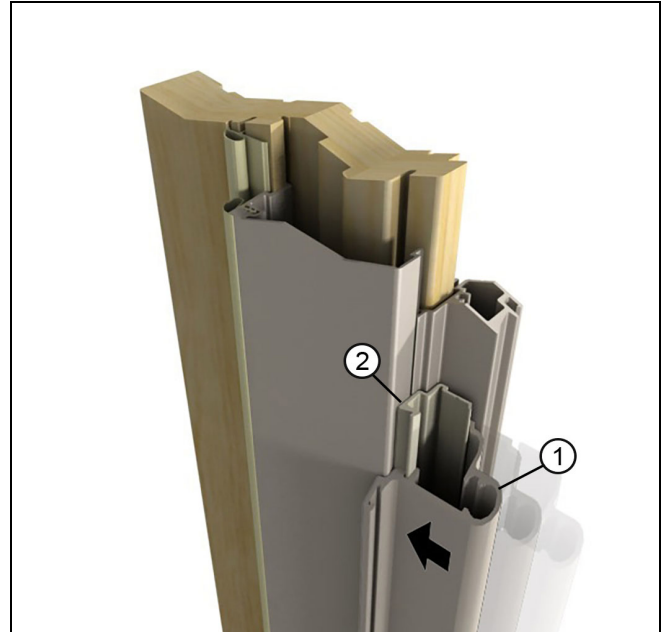

Figure 8 Screen panel removed for illustrative purposes.
2. With the screen panel in the closed position, engage the hinge z-bar to the jamb adapter by firmly tapping along the full length of the stop on the z-bar with a soft rubber mallet and wood block. A "snap" will be heard when the z-bar is properly seated into the jamb adapter. See Figure 8.